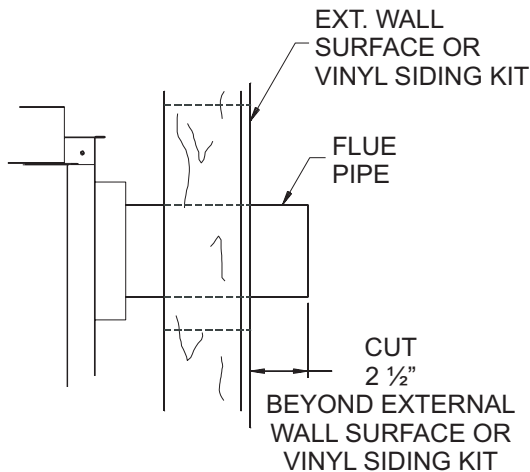
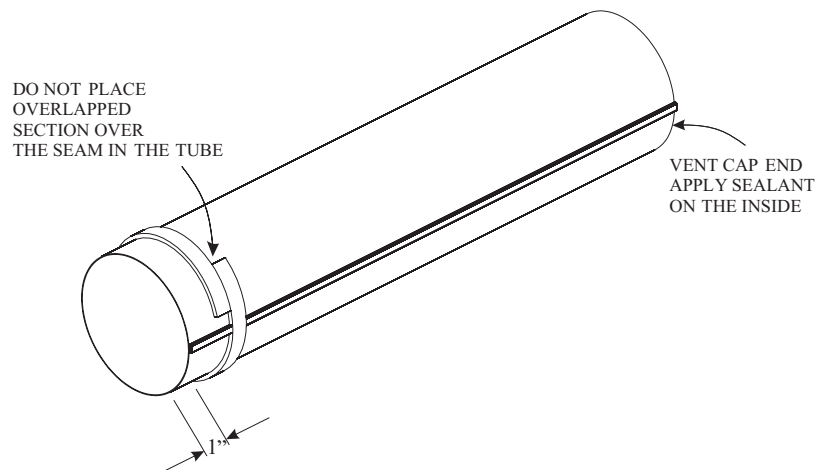

Figure 49
Figure 50
8. Attach the 4" (102 mm) diameter flue outlet tube onto the rigid venting system or directly to fireplace. Ensure the 4" (102 mm) diameter flue outlet tube is placed as far as possible onto the rigid venting system. Mark the 4" (102 mm) diameter flue outlet tube 2 1/2" (64 mm) beyond the vinyl siding kit or wall. See Figure 49. Remove the 4" (102 mm) diameter flue outlet tube from rigid venting system. When installing directly to fireplace, tape gasket needs to be used.
10. From outside: Push the 6 5/8" (168 mm) diameter inlet tube/ mounting plate onto end of rigid venting system to correct position. Fasten the outside mounting plate to the vinyl siding kit or wall with (4) 10 x 1 1/2" screws. (Ensure upward slope).
11. From inside: Attach the inlet tube to the collar on the back of the fireplace (or the rigid venting system) using (3) self tapping screws.
12. Seal the 4" (102 mm) diameter flue outlet tube. Follow instructions and diagram (Figure 50).
14. Fasten vent cap end using (3) 10 x 1/2" screws to mounting plate. **Sealing 4" (102 mm) Diameter Flue Outlet Tube**
If the air inlet and flue outlet tubes are to be connected directly to the unit (no rigid venting system is being used), then the gasket provided must be used to seal the 4" (102 mm) flue outlet tube. Peel the paper off the self-adhesive gasket and then wrap it around the end of the tube (if tube was cut, it is recommended to use cut end) as shown in Figure 50. Pull the gasket tight at all times while wrapping it around tube. The gasket ends should align, to form a complete seal. The overlapped section should NOT come in contact with the seam in the tube. Apply high temperature sealant to the opposite end of the tube (on the inside of the tube). The end with the gasket will attach to the back of the unit. Continue with Step 13.